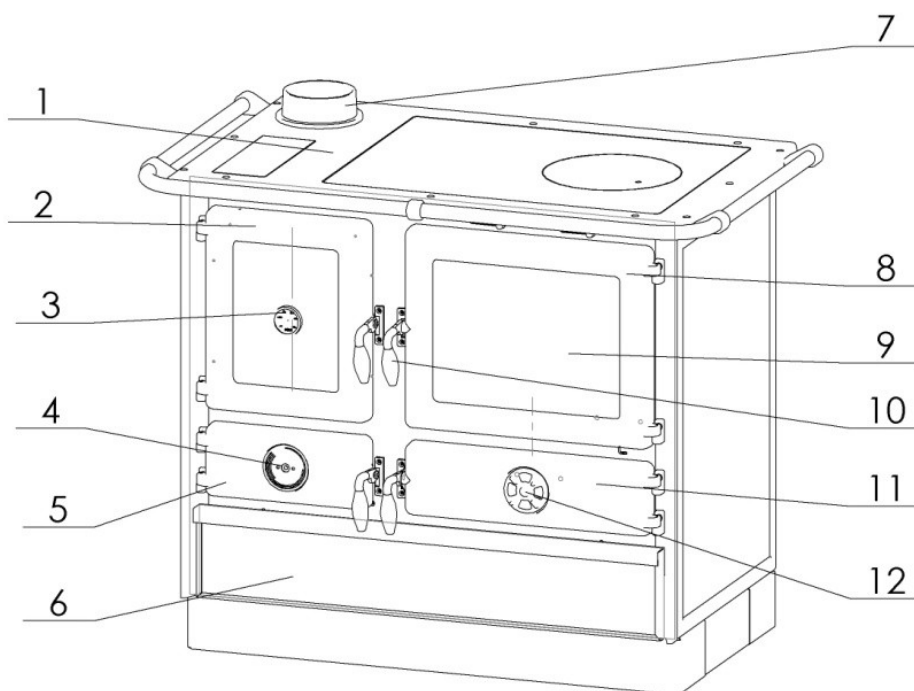

Fig. 1. Integral parts of Super Thermo Magnum cooker
Working plate is consisted of gray cast iron plate (fig. 1, pos. 1) with gray cast iron smoke exhaust (fig. 1, pos. 7) which is mounted onto the plate with two screws.
Firebox door (fig. 1, pos. 8) are made of gray cast iron and has thermalproof transparent glass (fig. 1, pos. 9). Ashtray door (fig. 1, pos. 11) is made of gray cast iron too and has auxiliary air flow regulator (fig. 1, pos. 12).
- ashtray door should be left open until stable flame occurs, and after closing, intensity of the burning should be regulated on the air flow regulator, (fig. 1, pos. 3)
- at adding fuel, open firebox door (fig. 1, pos. 1) for only few degrees, wait for 4-5 seconds, then open it wide very slowly. Do not open it abruptly, because when flame in the firebox is too strong, it may effuse into the room.
By regulation of air flow in the cooker, you set temperature, power and pace of fuel combustion, and it is to be carried out by turning air flow regulator on the ashtray door (fig. 1, pos. 4). Cooker has secondary air flow regulation due to improvement of combustion and maintaining firebox glass clean. By combining primary air through regulator on the ashtray door and secondary air via buttons above firebox door desired combustion is achieved.